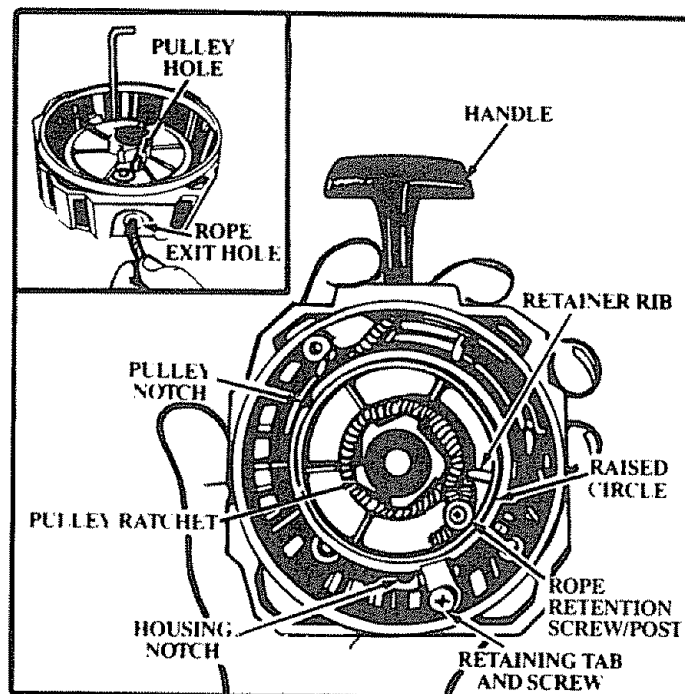

Figure 32
9. Hold Pulley Housing as shown in Figure 32. Hand turn the Pulley clockwise as far as it will go. Then, turn the Pulley counterclockwise until the Pulley Notch is aligned with the Housing Notch next to the Retaining Tab and Screw. Figure 32. Next, turn the Pulley one complete turn counterclockwise until the notches are aligned again.
10. Insert the small hex wrench into the hole formed by the Notches to hold the Pulley in position. Figure 32 (inset).
15. Insert the other end of the Rope through the Rope Exit Hole, into the inside of the Housing, into the Pulley, and up through the Pulley Hole. See Inset, Figure 32.
16. Wrap Rope counterclockwise around the Pulley Ratchet and tuck loose end under Rope where it comes out of the Pulley Hole. Leave a 1-inch tail laying flat on top of the Pulley between the Retainer Rib and the rope Retention Screw/Post. Figure 32.